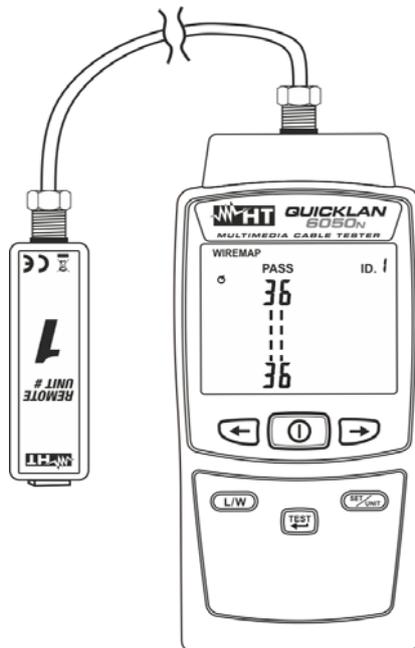

Fig. 12: Connection of the instrument to COAX cable with F connector
1. Switch on the instrument by pressing the key. ①
3. Connect the ends of the cable to be tested to the instrument's input COAX connector (see Fig. 1 – part 9) and to the remote unit #1 (see Fig. 12)